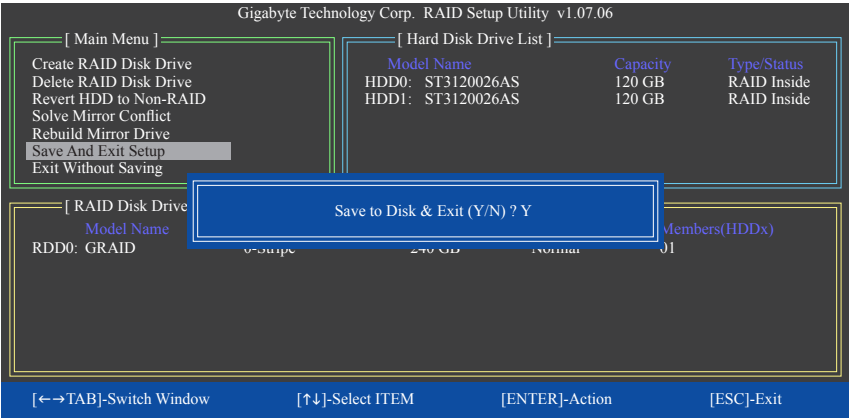

Figure 10
7. **Save and Exit Setup:** After configuring the RAID array, select the **Save And Exit Setup** item in the main screen to save your settings before exiting the RAID BIOS utility, then press <Y> (Figure 10).